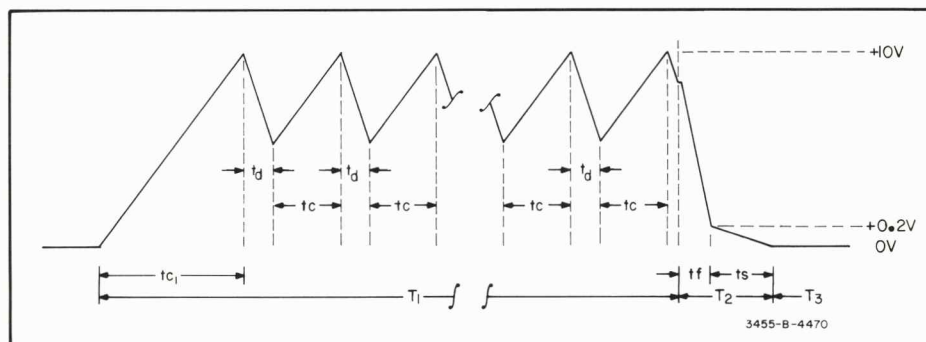
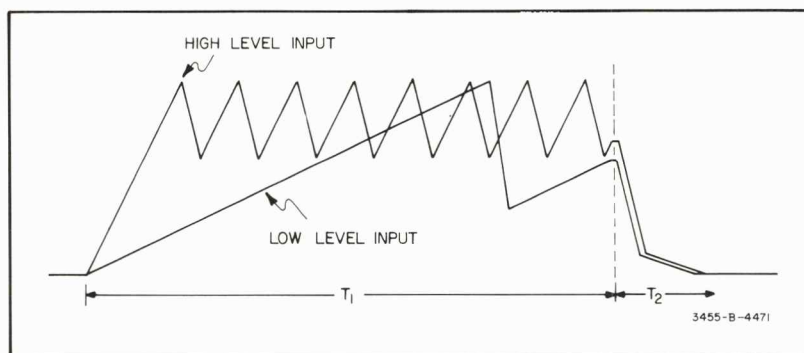

Figure 8-26. Integrator Output Waveform.
Figure 8-27. Integrator Output Waveforms for Different Input Voltage Levels.
8-89. The 3455A Multimeter uses a multi-slope integration technique to convert analog input signals to digital information. This method permits relatively high speed, high accuracy measurements. The following explanation of the A/D Converter operation uses the integrator output waveform pictured in Figure 8-26. The waveform shown is for a negative input voltage. For positive inputs the integrator output would range between 0 and - 10 volts. This waveform can be divided into three major portions: the integration period (time  $T_1$ ), the run-down period (time  $T_2$ ) and the auto-zero period (time  $T_3$ ). During time  $T_1$ , the input voltage is integrated and the most significant digits of the output reading are determined. During time  $T_2$  the input voltage is removed and the charge remaining on the integrator capacitor is used to determine the least significant digits of the output reading. During time  $T_3$ , the integrator is reset to approximately 0 volts and readied for the next reading. At time  $T_0$ , the input voltage from the DC Preamp is applied to the A/D converter and causes the integrator capacitor to charge (period  $t_{c1}$ ). The rate at which the integrator capacitor charges depends upon the amplitude of the input voltage applied (see Figure 8-27). If the voltage at the output of the integrator reaches plus or minus 10 volts the 10 V comparator is enabled and interrupts the inguard controller. The controller switches in a reference current opposite in polarity amount of time (period  $t_d$ ) and causes the integrator to discharge. At the end of period  $t_d$ , the reference voltage is removed allowing the integrator to again charge (period  $t_c$ ). This charge, discharge sequence may be repeated throughout integration period  $T_1$ .
cycles. The number of charge-discharge cycles depends upon the input voltage applied (as shown in Figure 8-27) and whether the voltmeter is in the 5 or 6 digit readout mode. For the 5 digit mode, time  $T_1$  is 1/60 second (1/50 second for 50 Hz operation) and approximately 16 charge-discharge cycles occur for a full scale input. During 6 digit operation, time  $T_1$  is increased to 8/60 second (8/50 second for 50 Hz operation), allowing approximately 127 charge/discharge cycles to occur for a full scale input.
**8-93. Input and Reference Switching.** The A/D input and reference switching is controlled by the inguard controller. The input from the DC Preamp is applied to the integrator input through a 19.8 kilohm resistor (R15) and FET switch Q3. The integrator charge current due to the input voltage is established by R15 and is equal to the input voltage divided by 19.8 kilohms. FET switch Q3 is closed throughout the integration period (time  $T_1$ , Figure 8-26) and is open during periods  $T_2$  and  $T_3$ .
iod (time  $T_1$ , Figure 8-26). For inputs less than 10 volts the output of the 10 volt Detect Amplifier is near 0 volts. As the input reaches 10 volts the output switches to approximately +5 volts.
**8-102. 0.2 volt Detect Amplifier.** The purpose of the .2 volt Detect Amplifier is to detect when the integrator has discharged to approximately .2 volts during period  $T_2$  (Figure 8-26). This information is used by the inguard controller in determining the point to remove the "fast-discharge" reference and apply the "slow-discharge" reference.